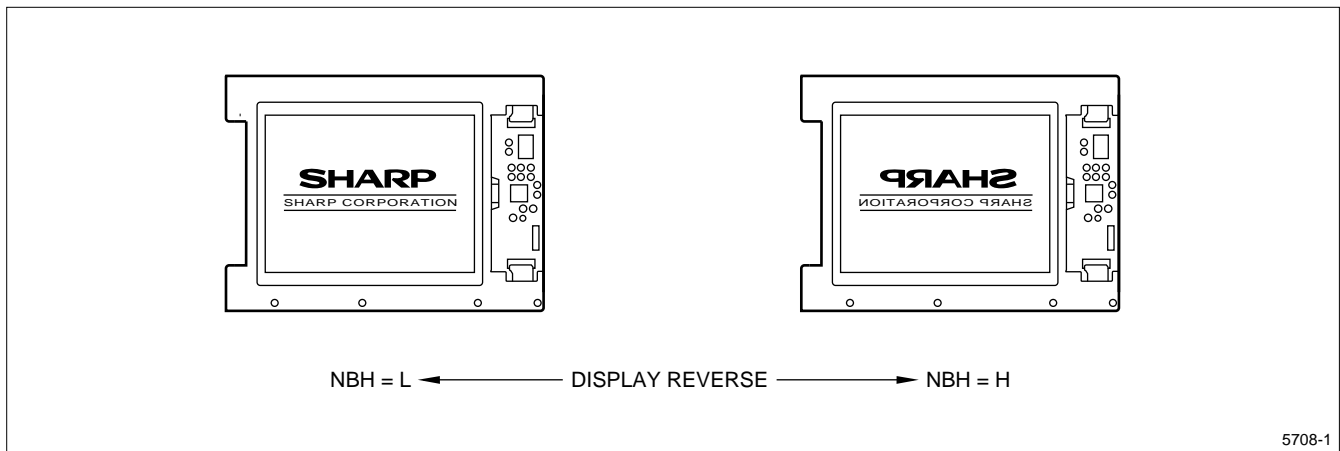

Figure 2. Horizontal Display Mode Select Signal
- See Figure 2 for Display Mode.
t_3 : Fall Time ($> 0\text{ ms}$) (Figure 2)